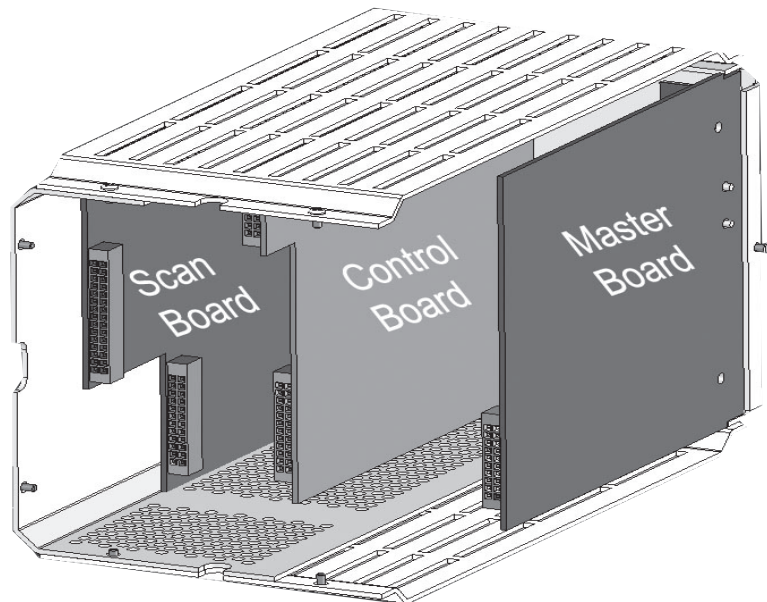

Figure 6-2.
7. Gently pull the Control board or Scan board away from the adhesive gap pad on the back of the LED panel (Figure 6-2).